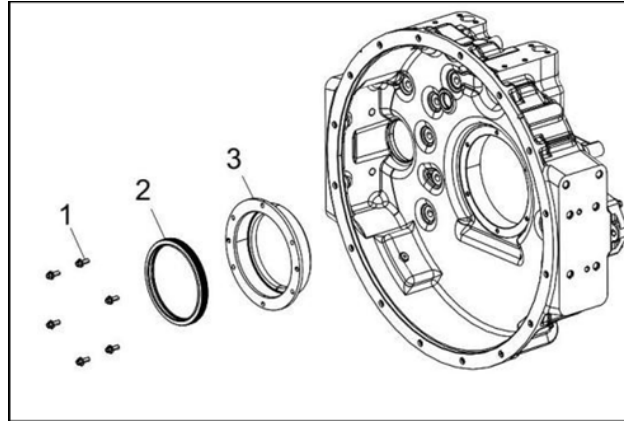

Figure 138.
2. Assemble the rear oil seal group on the flywheel housing (Figure 138).